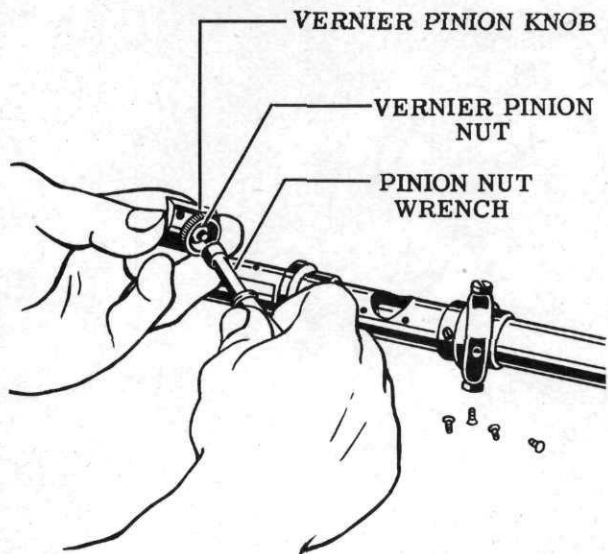

Figure 30
13. Assemble the vernier pinion knob and the vernier pinion nut onto the vernier pinion. Tighten the vernier pinion nut down firmly using the pinion nut wrench, Tool No. 4. See Fig. 30. Final tightening will be done when the vernier pinion has been checked for freedom of rotation.